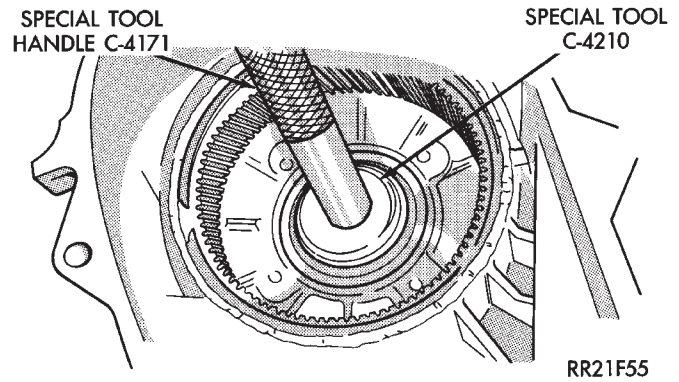
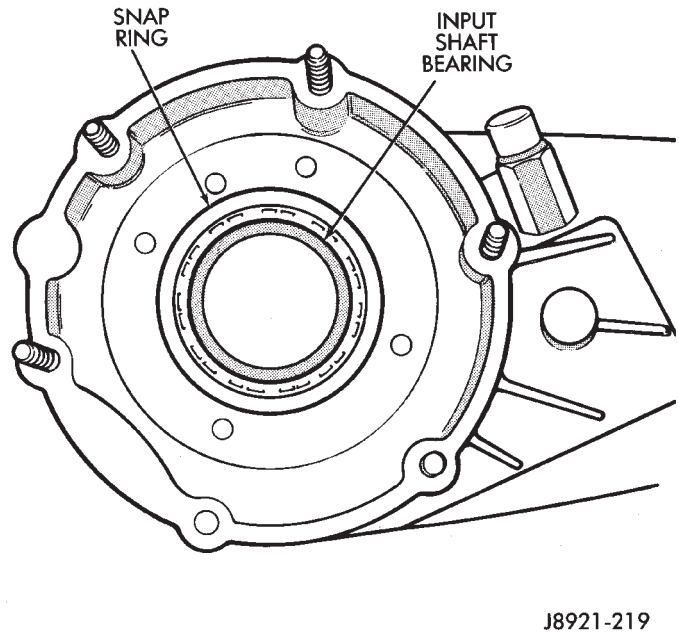

Fig. 40 Removing Input Gear Bearing
Fig. 41 Seating Input Gear Bearing
(6) Press input gear bearing out of front case with Special Tools C-4210, C-4171 and shop press (Fig. 40).
(7) Install snap ring on new input gear bearing.
(8) Install new input gear bearing with shop press and wood block. Install bearing far enough to seat snap ring against case (Fig. 41).